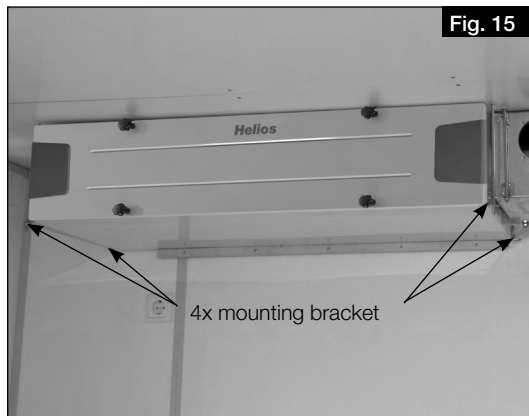
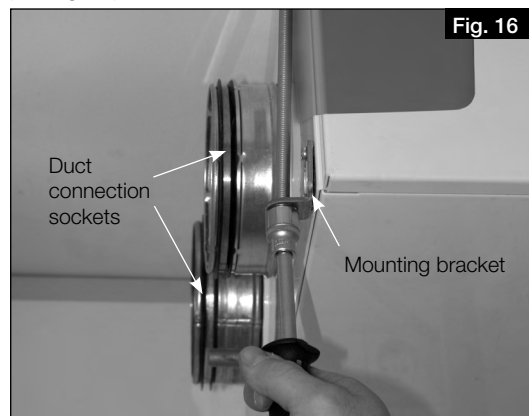

Fig. 15
Fig. 16
2. Attach mounting bracket with anti-vibration dampers (4x; included in delivery) to the lower side walls with metal screws (see Fig. 15 and Fig. 16).
3. Mount the unit to the ceiling with long M8 threaded rods (see Fig. 16).